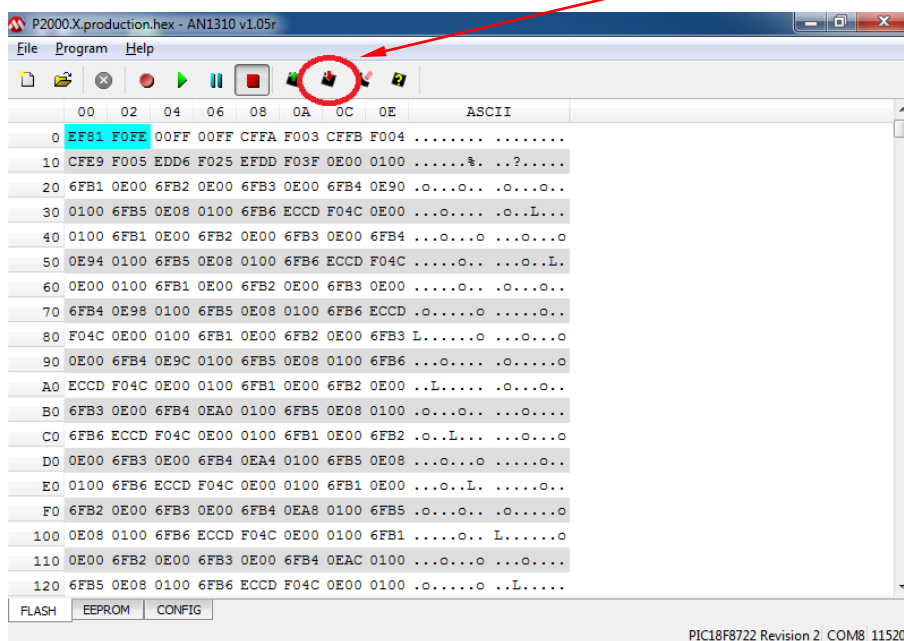

Figure 3.19
- 8. The bootloader screen will show new hexadecimal values. Click the **Write Device** button (Figure 3.19).